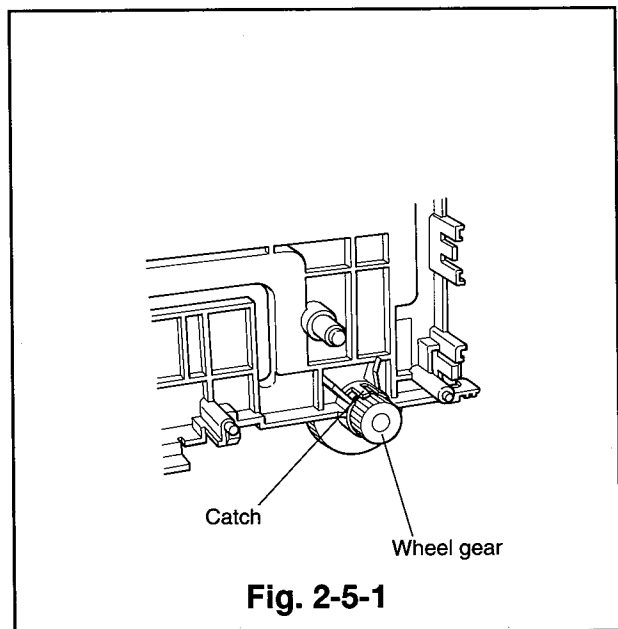

Fig. 2-5-1
- ① Remove the cassette housing. (Refer to Para. 2-1 for the removal method.)
- ② Remove the side plate and sense gear. (Refer to Para. 2-2 for the removal method.)
- ③ Unfasten the catch shown in Fig. 2-5-1 to remove the wheel gear.
- ① Install the wheel gear on the position shown in Fig. 2-5-1 from the inside of the cassette housing.
- ② Install the sense gear and side plate. (Refer to Para. 2-2 for the installation method.)
- ③ Install the cassette housing. (Refer to Para. 2-1 for the installation method.)